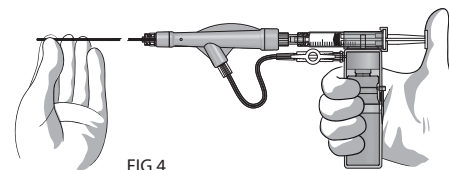

FIG.4
**When you start using it, open the gas by the stopcock, hold the gas canister in one hand and, at the same time, take the distal end of the catheter in the other hand (fig. 4), then push in the syringe plunger to nebulize the product.**